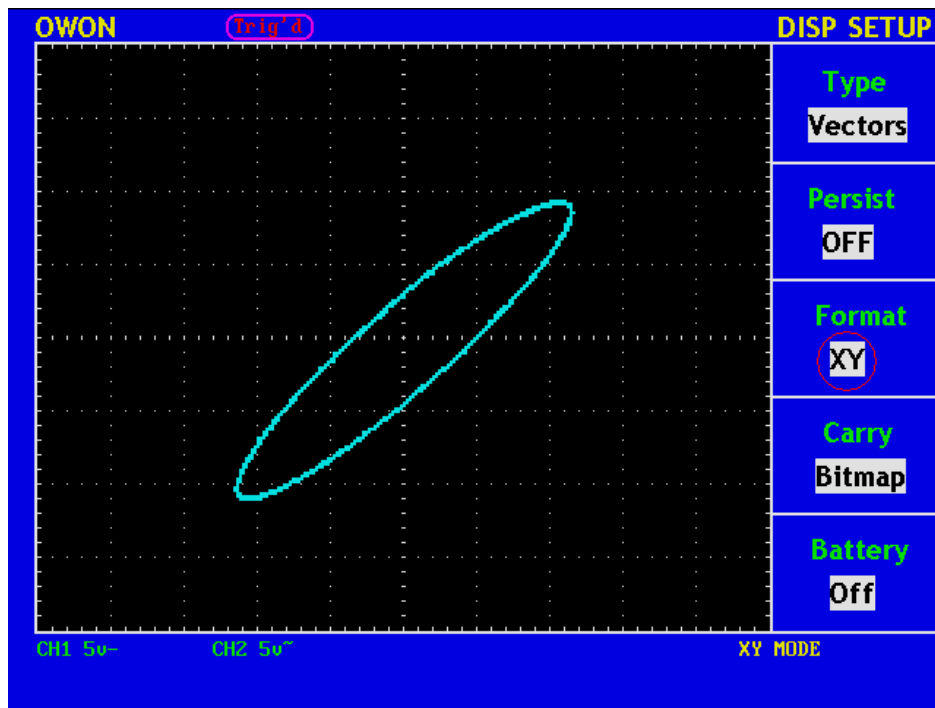

Fig. 60 XY Display Mode
2. Press the **F3** menu selection button and choose the form as XY. The display format is changed to be XY mode (see Fig.60).